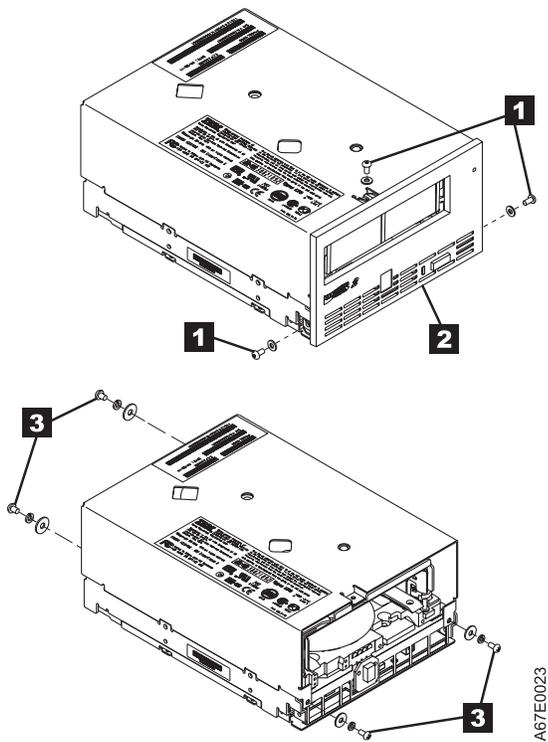

Figure 168. Removing Drive Top Cover
5. Remove the four drive mounting screws **4** (see Figure 168 on page 680).